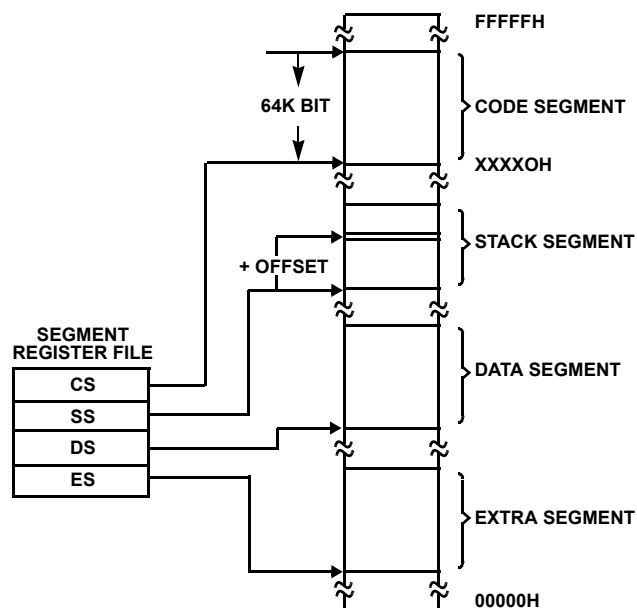

FIGURE 9. HS-80C86RH MEMORY ORGANIZATION
The processor provides a 20-bit address to memory, which locates the byte being referenced. The memory is organized as a linear array of up to 1 million bytes, addressed as 00000(H) to FFFFF(H). The memory is logically divided into code, data, extra and stack segments of up to 64K bytes each, with each segment falling on 16 byte boundaries. (See Figure 9).